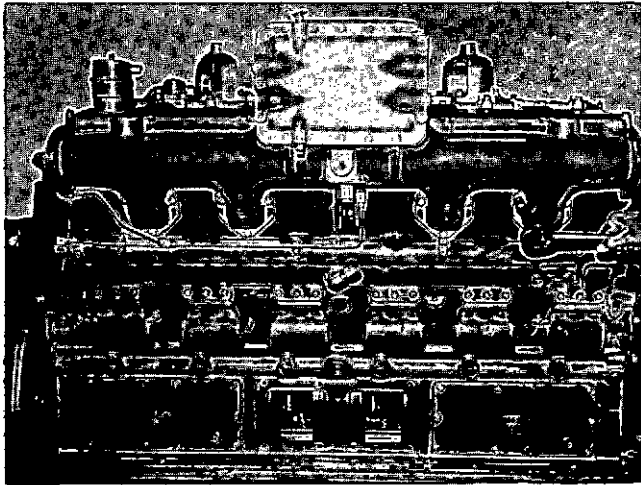

Fig. 14-1-78, V414170. Installing air intake manifold
1. Install new gaskets and assemble intake manifold over guide pins to each side of engine; secure with lockwashers and capscrews. Fig. 14-1-78.